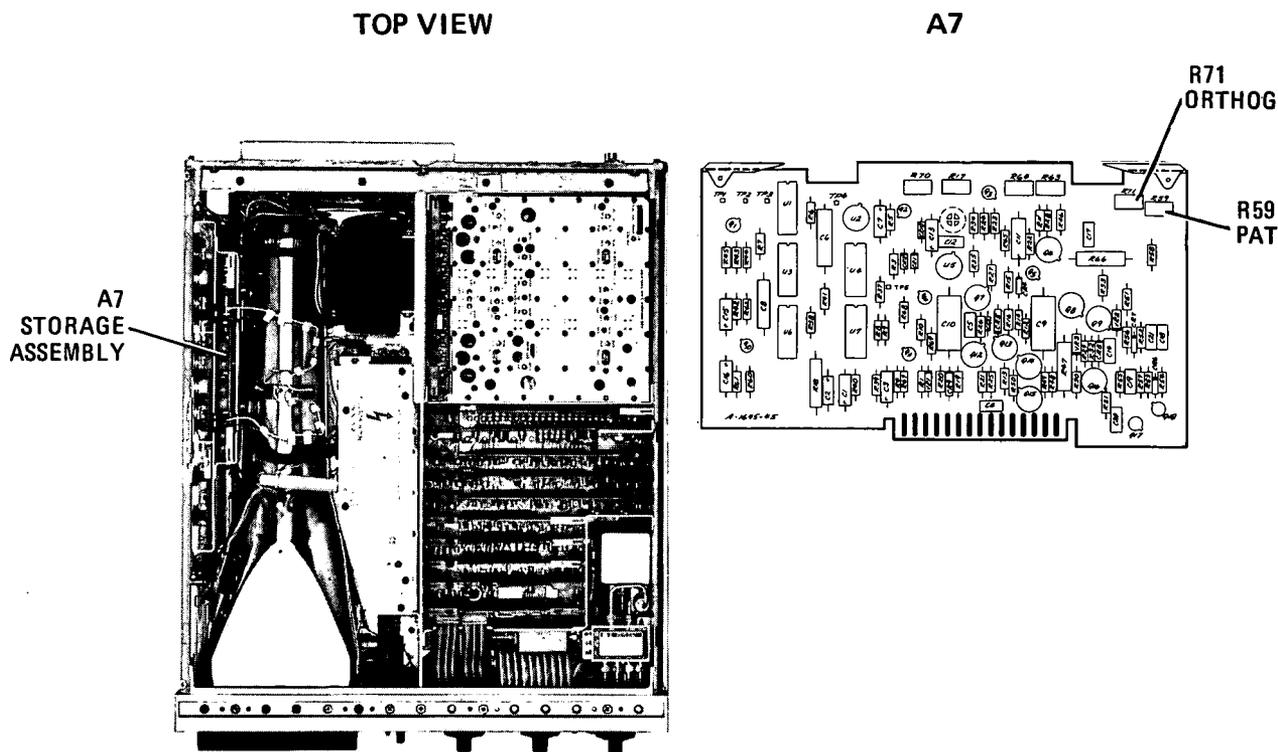

Figure 5-7. Orthogonality and Pattern Adjustment Locations
- g. Adjust R71 ORTHOG (Figure 5-7) to align baseline parallel with the horizontal graticule line.